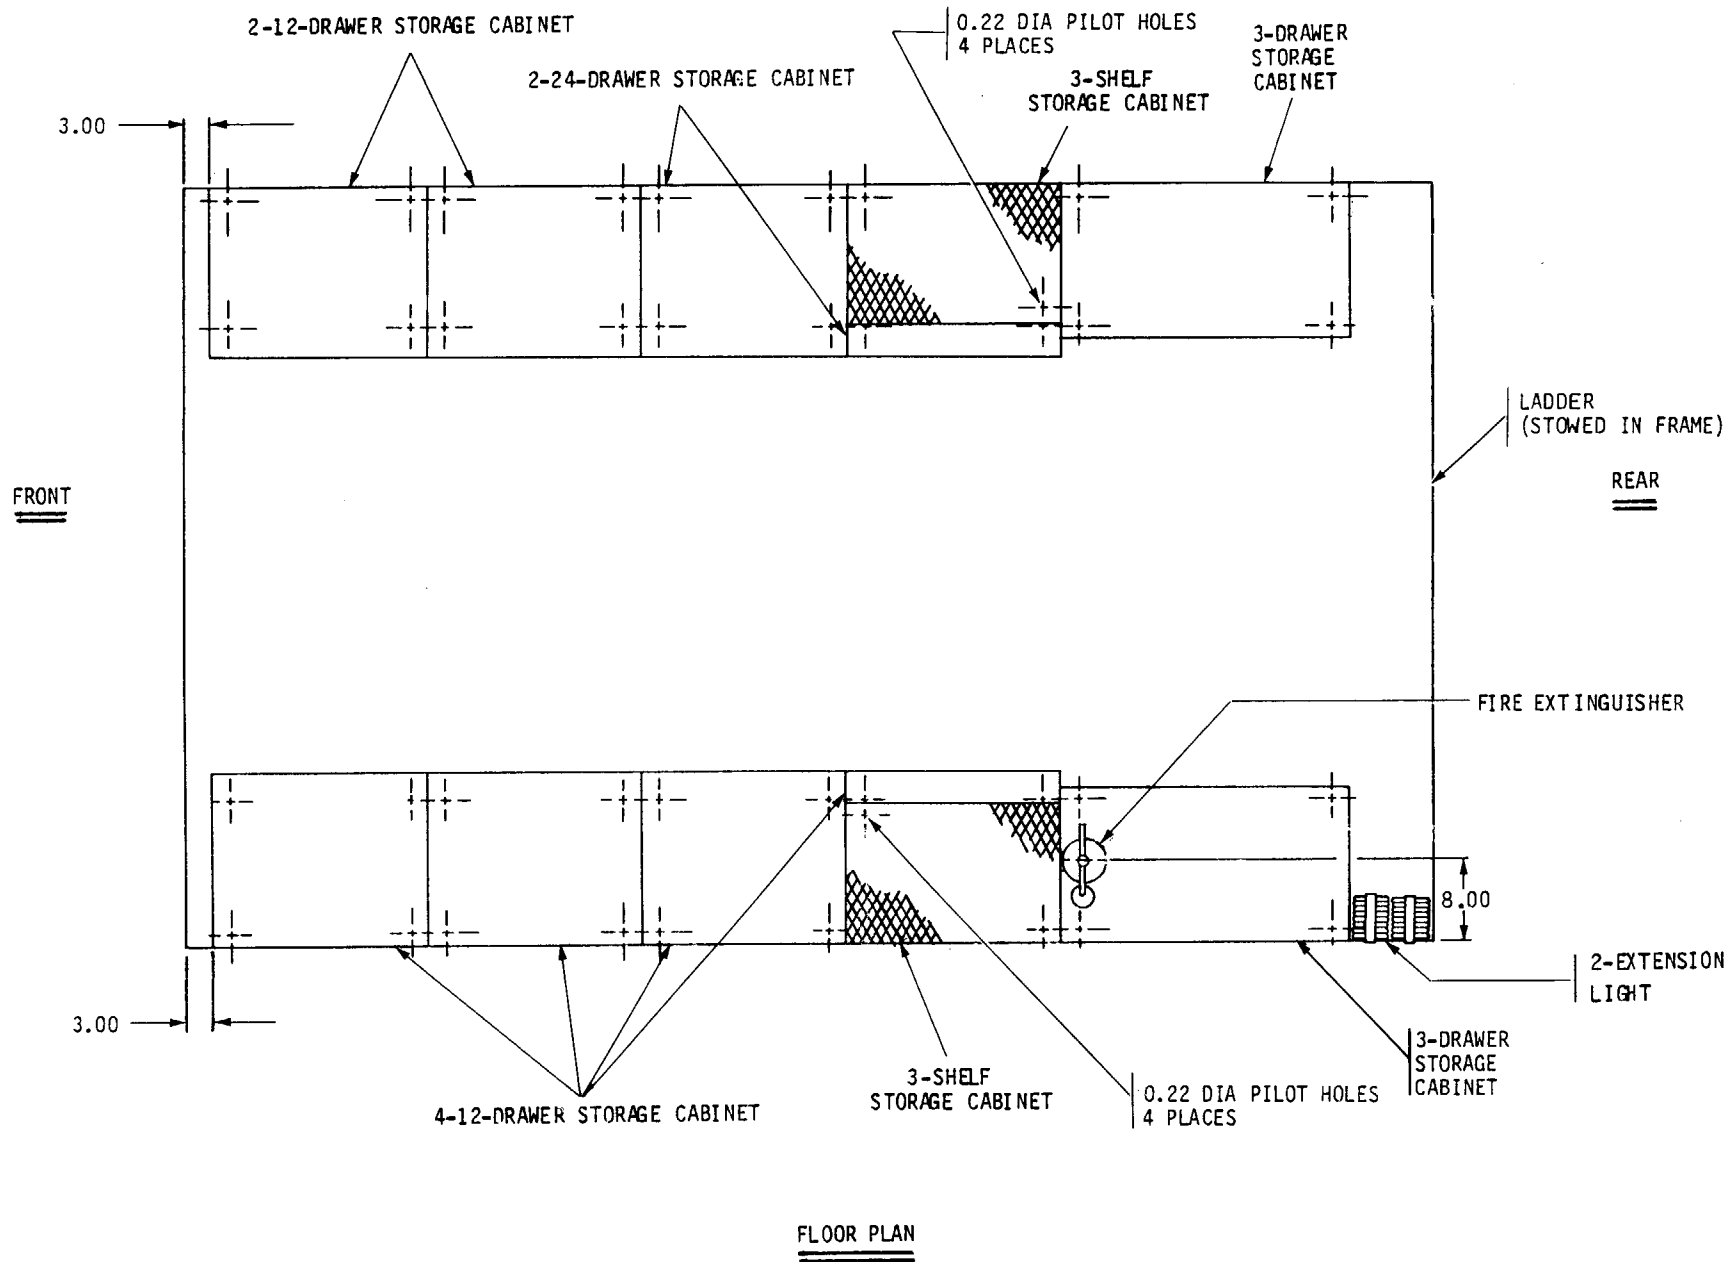

Figure 2. Components to be Mounted, M35A2, Floor Plan.
a. Location of equipment installed or stowed in M35A2 cargo truck is referenced in figures 2 thru 5.
(1) Refer to table 1 for hardware required for installation.
(2) Refer to table 2 for components to be mounted.
(3) Refer to table 3 for electrical components to be mounted.
a. Follow steps (1) thru (11) below for equipment installation in M35A2 cargo truck.
(1) Mark and drill four 0.34-in. diameter holes into bottom plate of storage cabinet(s) without holes. Locate at the four corners, allowing for minimum required clearance for 5/16-in. hex head capscrews.
(2) Position five storage cabinets: two 12-drawer (7125-00-693-4352), two 24-drawer (7125-00-693-4353), and one 3-drawer (7125-00-559-6223), on right side of truck in accordance with figures 2 and 4.
(4) Position five storage cabinets: four 12-drawer (7125-00-693-4352) and one 3-drawer (7125-00-559-6223), on left side of truck in accordance with figures 2 and 5.
(5) Repeat step 3. Secure the storage cabinets to floor, duplicating the hardware listed in step 3.
(6) Position one 3-shelf storage cabinet (7125-00-449-6862) on top of 24-drawer storage cabinet on the right side of truck in accordance with figures 2 and 4.
(7) Mark and drill four 0.34-in. diameter holes through the 3-shelf storage cabinet bottom frame. Using the drilled holes in the bottom frame as a template, mark and drill four 0.22-in. diameter pilot holes into the 24-drawer storage cabinet wood top. Secure, using four 5/16- x 1-1/4-in. hex head lag bolts (MS16992-521) and four 5/16-in. lockwashers (MS35338-45).
(8) Position one 3-shelf storage cabinet (7125-00-449-6862) on top of 12-drawer storage cabinet on the left side of truck in accordance with figures 2 and 5.
(9) Repeat step 7. Secure 3-shelf storage cabinet to wooden top of 12-drawer storage cabinet, duplicating the hardware listed in step 7.
(10) Position mounting bracket of fire extinguisher (4210-00-270-4512) on the left, side of previously installed 3-shelf storage cabinet in accordance with figures 2 and 5. Mark and drill three 0.28-in. diameter holes in bracket. Secure mounting bracket to wire mesh wall of 3-shelf storage cabinet, using three 1/4- x 3/4-in. countersunk head machine screws (MS35190-289), six 1/4-in. flat washers (AN970-4) (three flat washers placed on inside of 3-shelf storage cabinet mesh wall), three 1/4-in. lockwashers (MS35338-44), and three 1/4-in. hex nuts (MS51967-2). Install fire extinguisher in mounting bracket.
(11) Position two extension lights (6230-00-729-9259) on truck slat in accordance with figures 2 and 5. Secure to slat, using two 12-in. retaining straps (7550588-6).